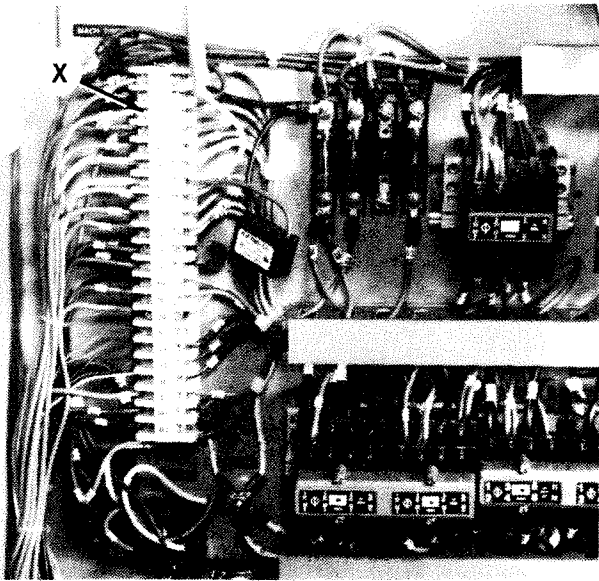

Figure 3.26 - Terminal Block 1TB
9. Disconnect wires 5, 15, 16, 20, 26, 27, and 33 from the left side of terminal block "X", Figure 3.26 .
8. Connect wires 5, 15, 16, 20, 26, 27, and 33 to the left side of terminal block "X", Figure 3.26 .